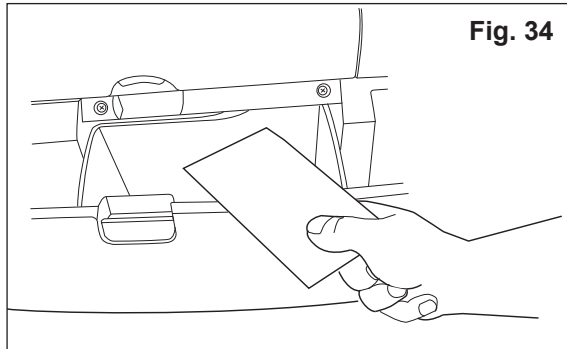

Fig. 34
- Place the operation instruction card in the vehicle glovebox. **(Fig. 34)**